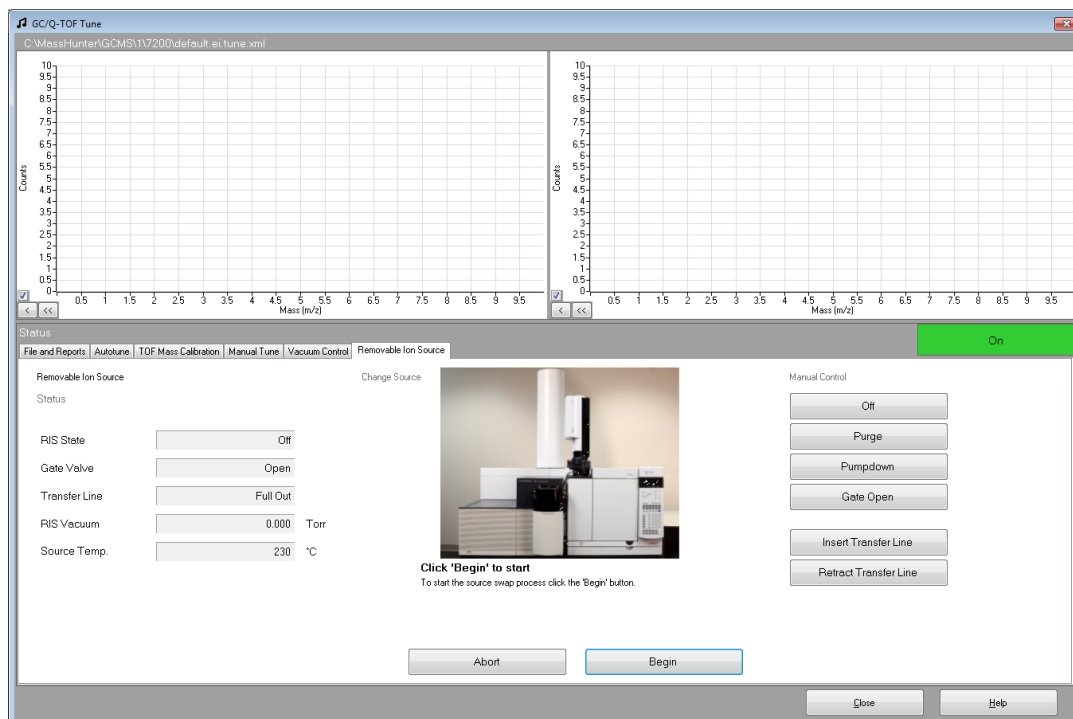

Figure 25 GC/Q-TOF Tune dialog box
- 2 Click the **Removable Ion Source** tab in the **GC/Q-TOF Tune** screen. (Figure 25)